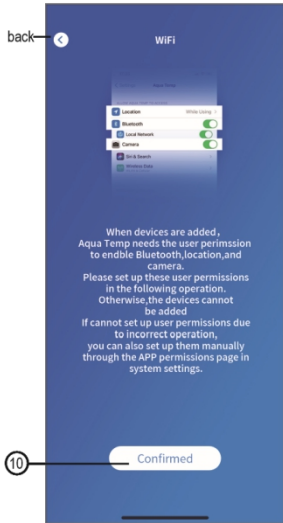

Fig.7 Permission confirmed interface
1. Click ⑩ to confirm the permission of bluetooth, location and camera (Fig.7);